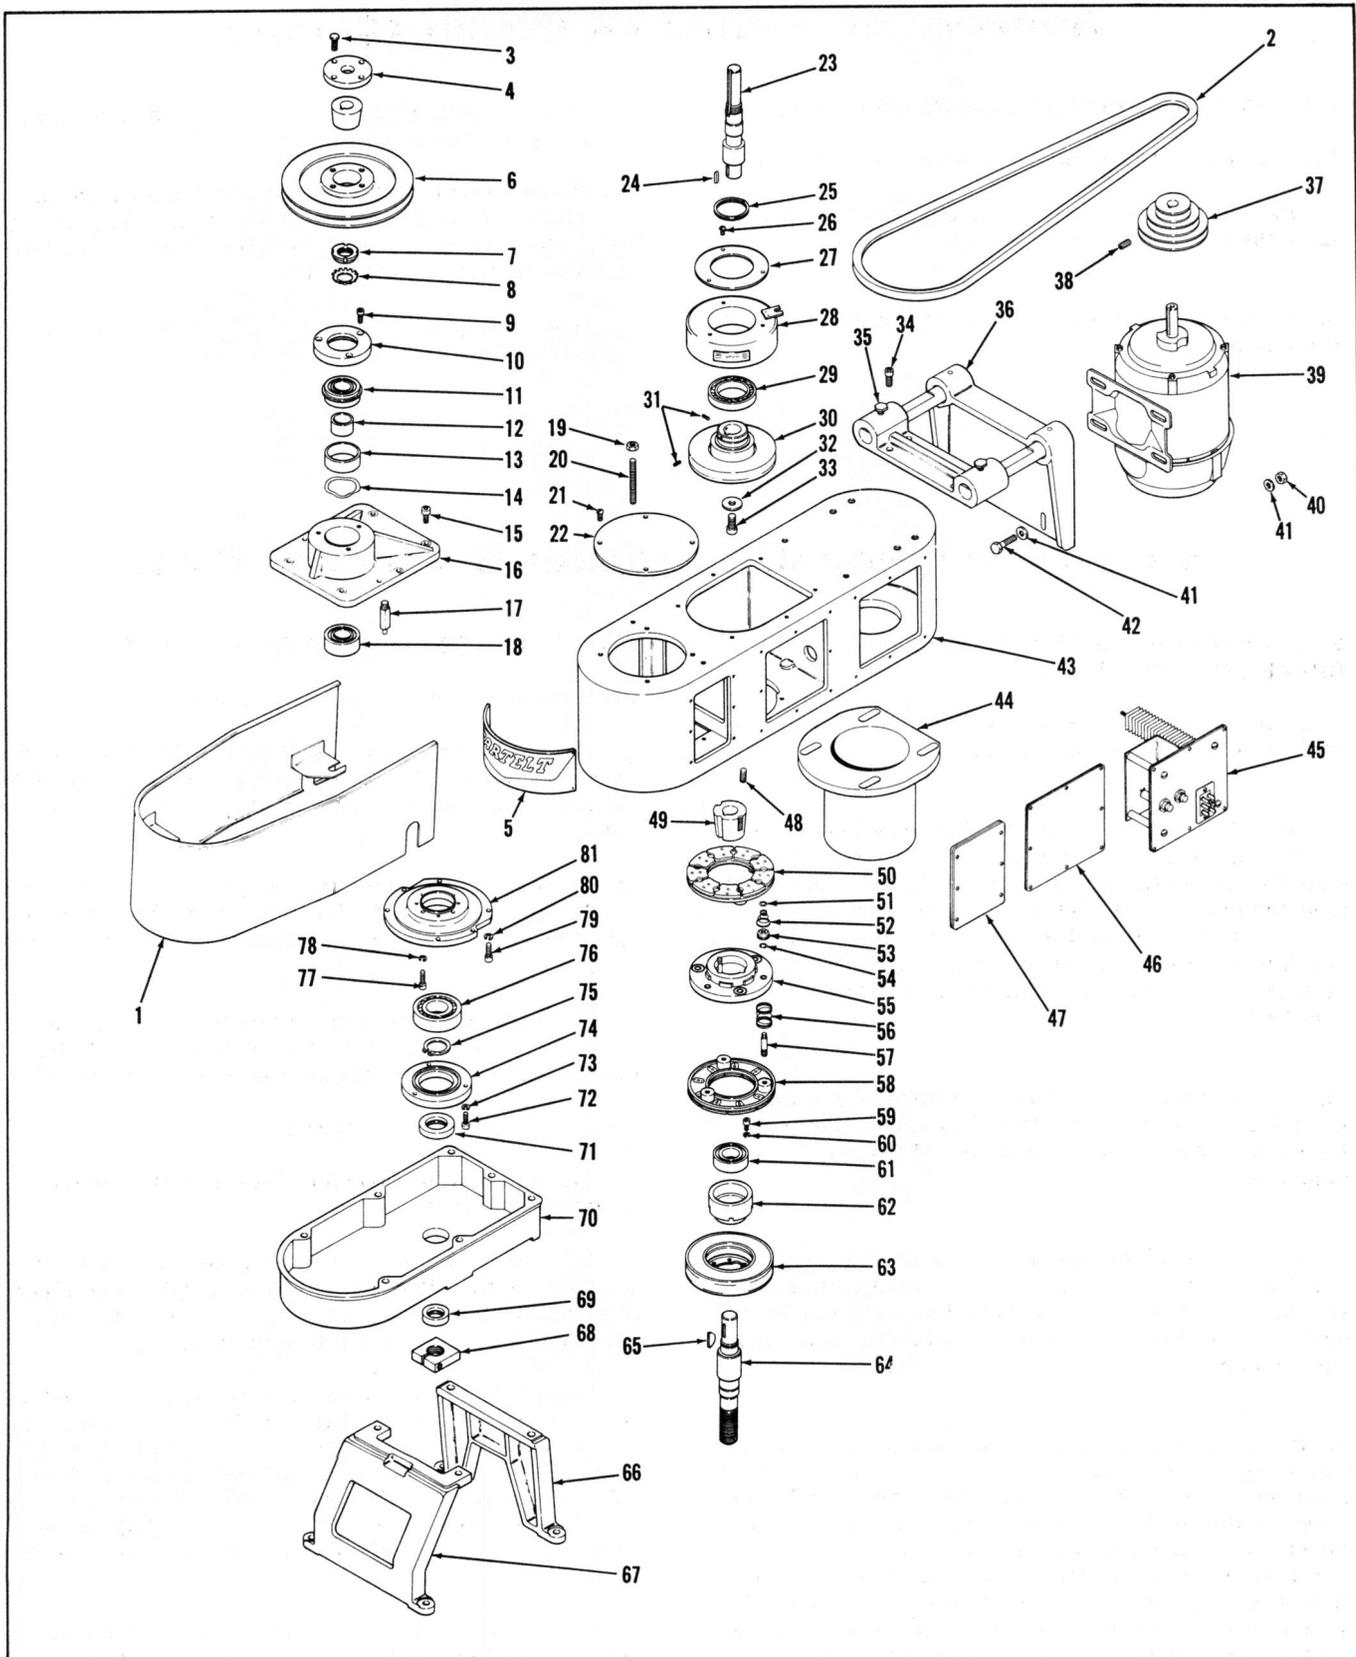

Figure 6-7. Filler Drive Assembly
a. Remove inspection cover (46, Figure 6-7). Connect a DC voltmeter with a range of 0 to 100, or more, directly across the magnet terminals of the clutch and then the brake. With power turned on, a reading of 85 to 95 volts is satisfactory. If no reading is obtained check fuses, rectifier, or capacitor in electrical panel (45). If low reading is obtained, check capacitor and rectifier.
a. Remove belt guard (1, Figure 6-7). Loosen two screw (35) and slide drive motor (39) and mount (36) toward pulley (6) and remove drive belt (2) from the pulleys.
b. Disconnect electrical power plug from receptacle on electrical panel (45). Remove inspection cover (46) and disconnect two electrical wires from clutch field (28).
c. Remove six screws (15) from top bearing housing (16). Using a 3/16 inch punch, drive two dowel pins in top bearing housing down until they clear the housing.
Legend for Figure 6-7
a. Disconnect electrical power plug from receptacle on electrical panel (45, Figure 6-7). Remove filler tooling and funnel (refer to Chapter 3). Loosen screw in lock nut (68) and thread lock nut upward on shaft (64). Unscrew auger drive shaft from shaft (64) then, unscrew lock nut (68) from the shaft.
b. Tie or otherwise support the hopper and hopper supports to the filler column. Remove four screws attaching front and rear hopper supports (66 and 67) to bottom of gear box (70). Loosen screws in support collar (44) and rotate filler drive until clear of hopper and hopper supports.
c. Remove three socket head screws securing gear box (70) to underside of filler drive housing (43) and pull gear box downward along shaft (64) being careful not to damage oil seal (69).
d. Remove inspection cover (46) and disconnect two electrical wires from brake magnet.
e. While holding lower bearing housing (81) remove four screws (79) and lock washers (80) securing lower bearing housing to the underside of filler drive housing (43). Lower the bearing housing and parts attached to shaft (64) out of filler drive housing.
f. Remove armature and hub assembly from the upper end of shaft (64) as outlined in paragraph 6-13, step f. Cut and remove safety wire from three drive pins (57) on the clutch side of the armature assembly. Using an open end wrench, unscrew the three drive pins from brake armature (58). After brake armature is free of drive pins, remove springs (56) from the three armature bosses.
g. Detach bearing retainer (74) together with seal (71) from lower bearing housing (81) by removing four screws (72) and lock washers (73). Remove retaining ring (75) from groove in shaft (64) and pull bearing (76) out of lower bearing housing.
h. Remove four socket head screws (77) and lock washers (78) located in counterbores in the bearing (76) area of the lower bearing housing. These screws attach bearing retainer (62) to the lower bearing housing. Pull shaft (64) with bearing (61) and bearing retainer (62) attached, out of lower bearing housing.
i. Remove four machine screws attaching brake magnet and remove brake magnet (63) from lower bearing housing.
j. Begin installation of new brake components by attaching a new brake magnet (63) to lower bearing housing (81) with four machine screws. Insert shaft (64) with bearing (61) and bearing retainer (62) attached, into lower bearing retainer and inside brake magnet. Milled holes in flange of retainer (62) to be over the installed machine screws. Insert four socket head screws (77) and lock washers (78) into counterbores in bearing (76) area of the lower bearing housing and thread them into bearing retainer (62).
k. Install bearing (76) onto shaft (64) and into recess in lower bearing housing. Secure with retaining ring (75). Attach bearing retainer (74) together with seal (71) to lower bearing housing with four screws (72) and lock washers (73).